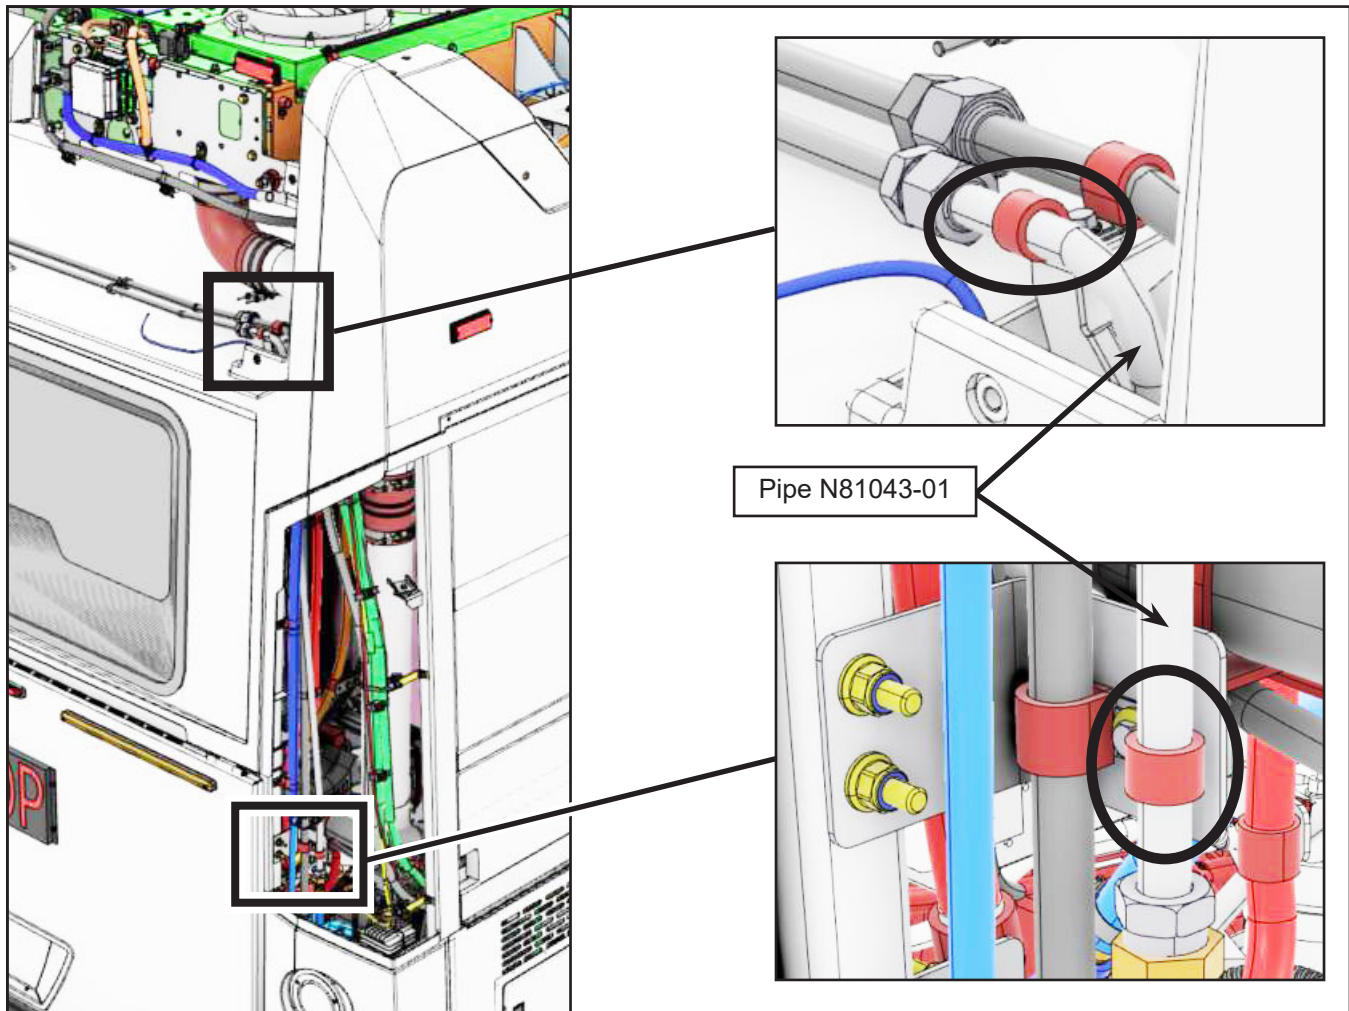

Figure 19 - Remove P-clamps to Free Pipe N81043-01
2.3.2. Remove the 2 P-clamps securing the pipe N81043-01 (Figure 19).